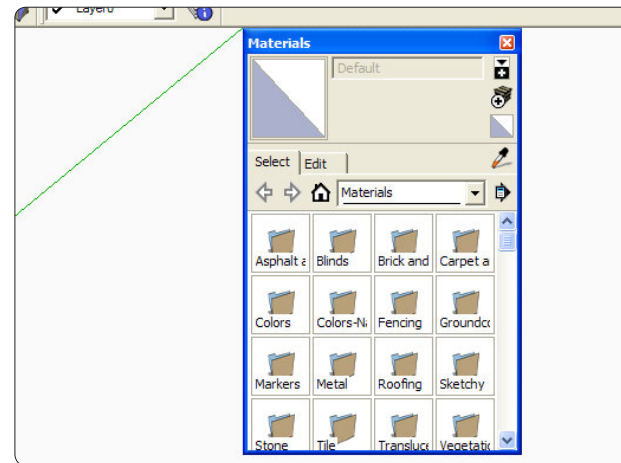

Figure 12. The Materials dialog box. To minimize it, click on the heavy top bar.
1. Click the Window tab on the Menu Bar, then click on Materials in the drop-down list to open the Materials dialog box, as shown in Figure 12. (The box looks quite different on a Mac.)